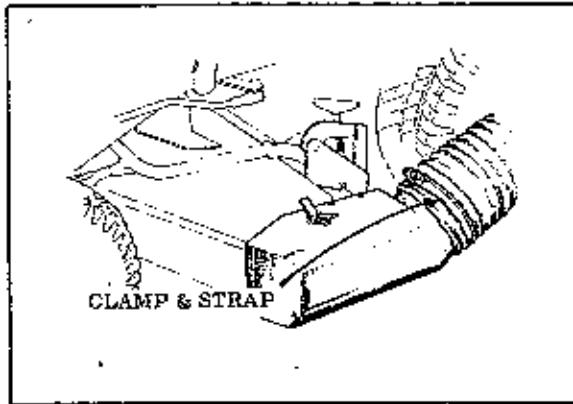
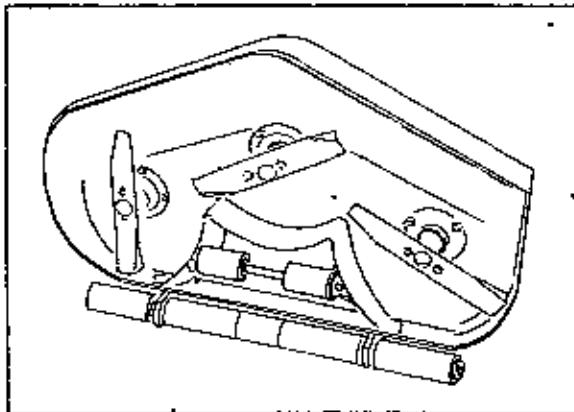
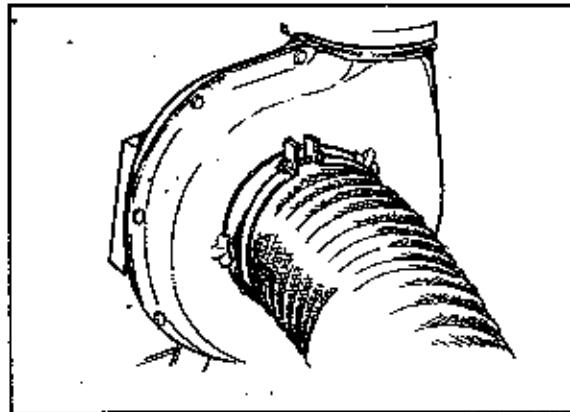
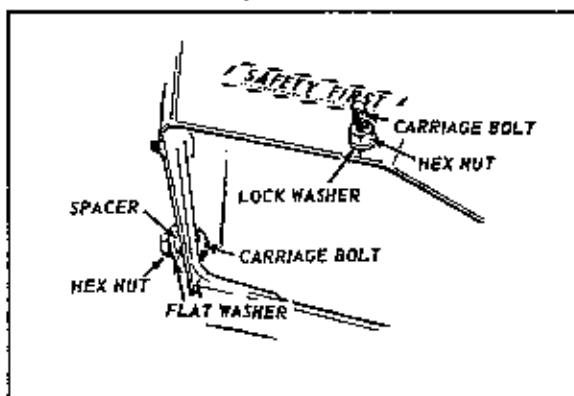

FIGURE 13
FIGURE 11
FIGURE 14
FIGURE 12
2. Prepare the rotary mower attachment for use with the vacuum collector by attaching the correct adapter kit. (Example: See Figs. 11, 12 and 13). Note the bolt nearest the exhaust opening has a spacer and flat washer under the attaching nut (Figure 12). Attach the carriage bolt for the exhaust cover (Figure 12) and secure the cover in position by means of the large wing nut assembly provided in adapter kit (Figure 13).
3. Secure the large hose to the left side of the blower with the clamp, flange and hardware provided (Figure 14) and then place the other end at the large hose securely over the sput extension on the exhaust cover (Figure 13) of the adapter kit.